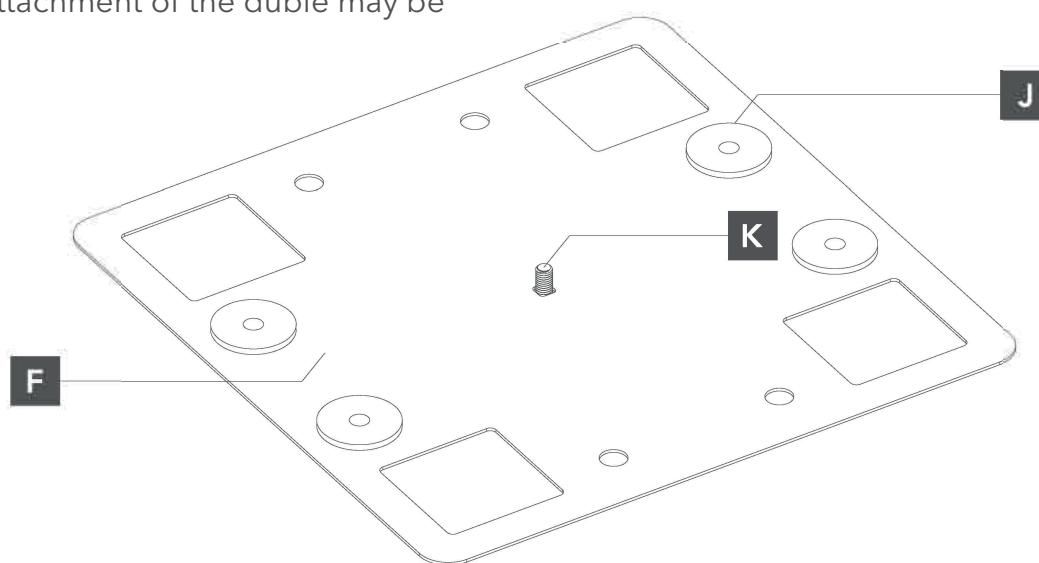

Fig. 3 Mounting the mounting plate on a roof with membrane cover
- 2 Fasten the hexagonal screws in the mounting plate and place the plate at the desired location on the diaphragm at the desired location. The dowels should be attached to the roof through the mounting holes (Fig 3). In some cases, the attachment of the double may be